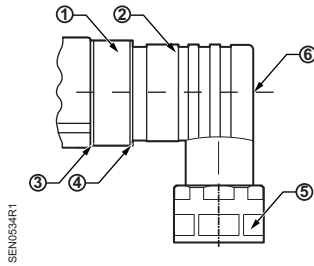

Figure 5.
- Loosen the central screw ⑥ M3×35 and disconnect the cable socket ② from the connector ①. See Figure 5. Pull the central screw ⑥ out of the cable socket ②.
- Ensure that all the connector seals ③, ④, and ⑨ at the plug connector have been correctly inserted. See Figures 5 and 8.